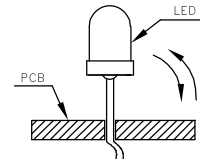

Fig. 8
7. Do not bend the leads more than twice. (Fig. 8)